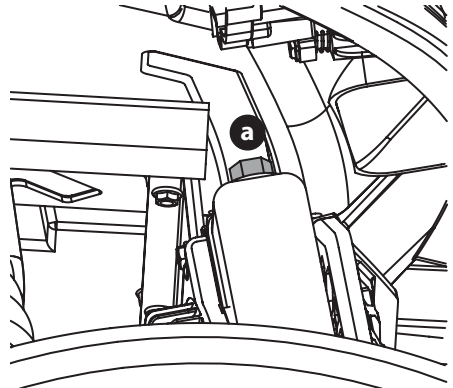

Figure 34
2. Remove the bleeder screw (a) on the radiator, fill the radiator and when fluid begins to come out of the bleeder screw hole, replace the bleeder screw (a). The bleeder screw (a) can be accessed via the front right wheel well (Figure 34 on page 27).